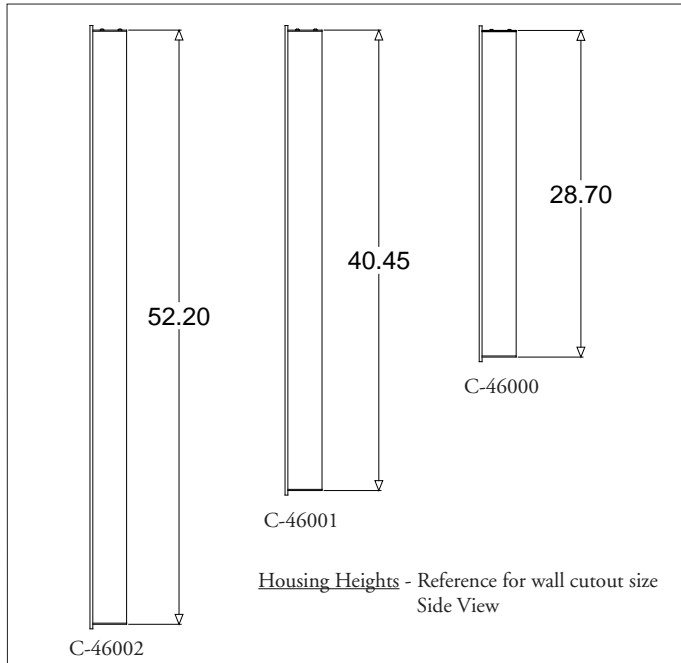

Figure 8
Step 1 Cut opening in wall. See Figure 8 for overall housing heights. Standard housing width is 2.75" for all models.